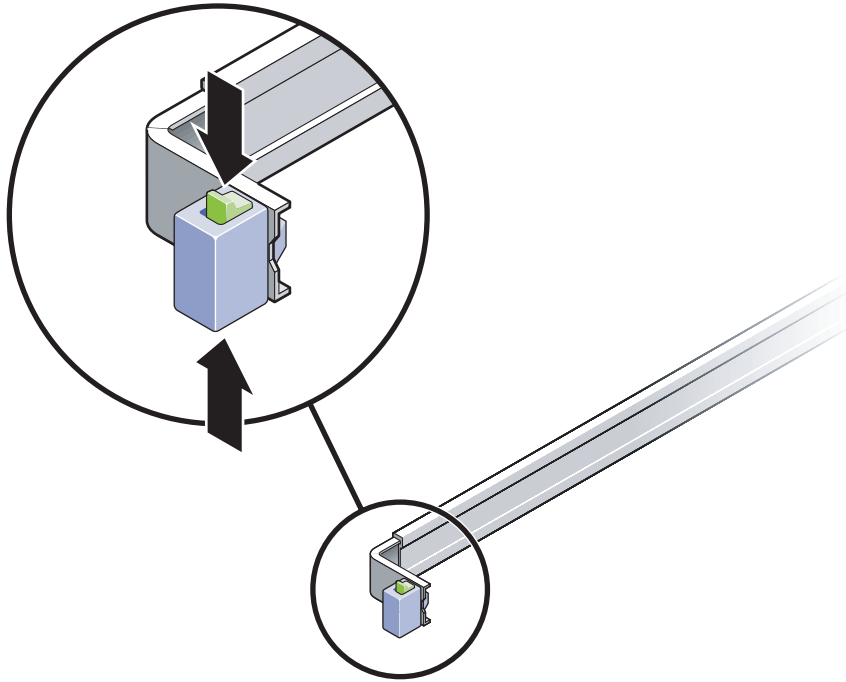

FIGURE 2-25 Unlocking the Slide Rail Assembly
2. Unlock the slide lock buttons (FIGURE 2-25) at the right and left sides of the server chassis, and slowly pull the server out of the rack until the slide rails reach their stops.